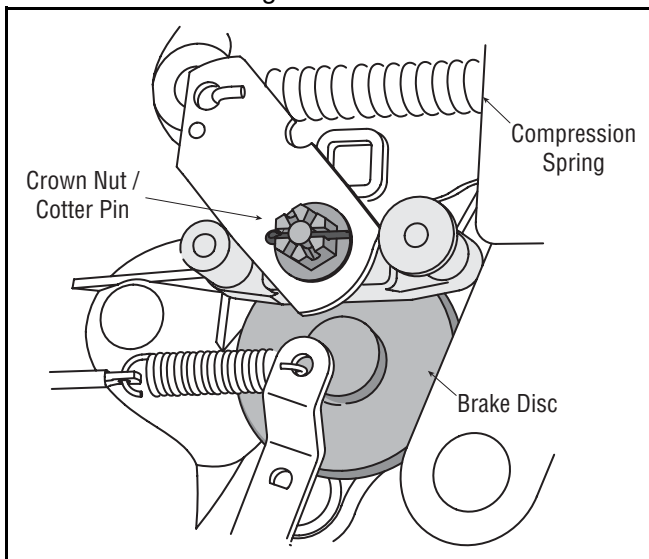

Figure 12
- Looking at the transmission from the rear, right side of the tractor, locate the compression spring and brake disc. See Figure 12.